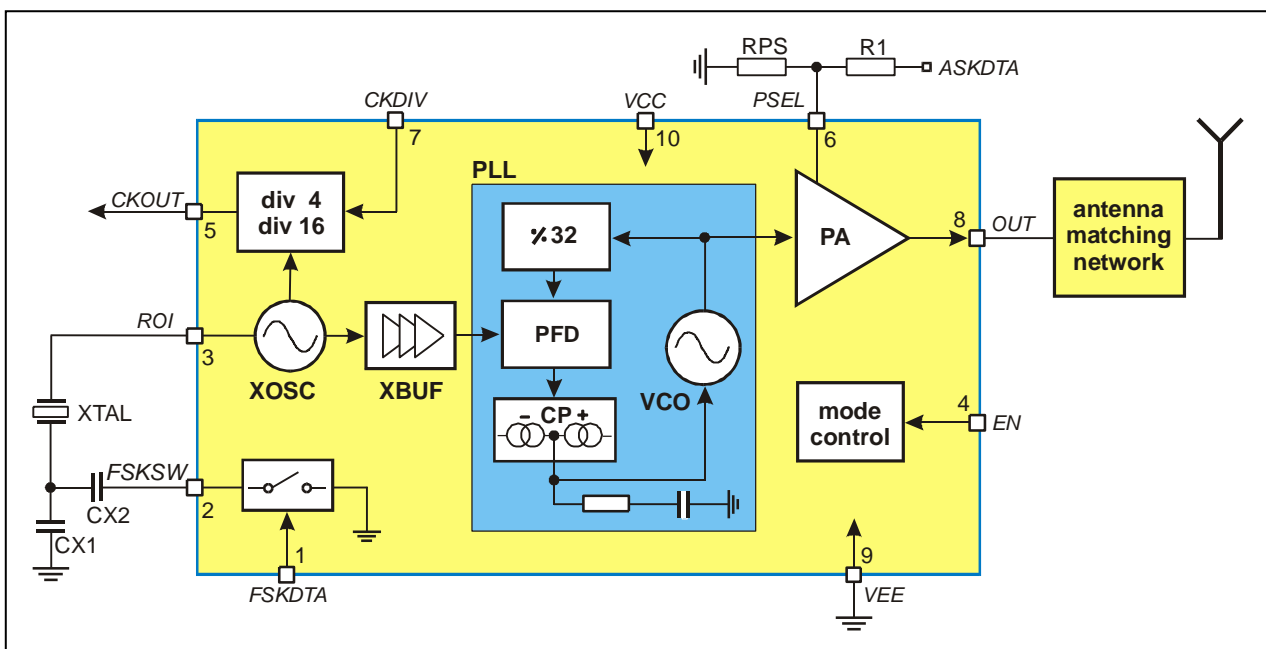

Fig. 1: Block diagram with external components
As depicted in Fig.1, the TH72016 transmitter consists of a fully integrated voltage-controlled oscillator (VCO), a divide-by-32 divider (div32), a phase-frequency detector (PFD) and a charge pump (CP). An internal loop filter determines the dynamic behavior of the PLL and suppresses reference spurious signals. A Colpitts crystal oscillator (XOSC) is used as the reference oscillator of a phase-locked loop (PLL) synthesizer. The VCO's output signal feeds the power amplifier (PA). The RF signal power P_{out} can be adjusted in four steps from $P_{out} = -12$ dBm to +10 dBm, either by changing the value of resistor RPS or by varying the voltage V_{PS} at pin PSEL. The open-collector output (OUT) can be used either to directly drive a loop antenna or to be matched to a 50Ohm load. Bandgap biasing ensures stable operation of the IC at a power supply range of 1.95 V to 5.5 V.